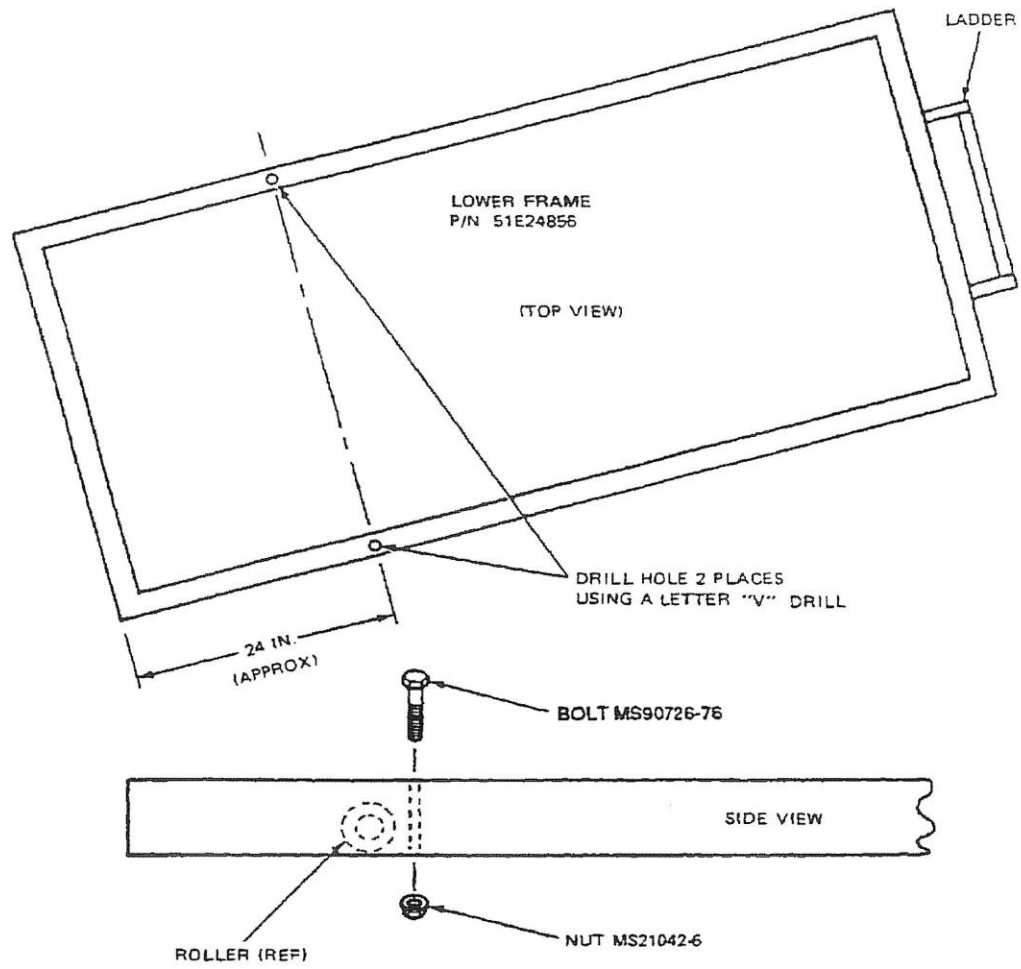

Figure 3-9. Installation of Platform Height Stop Bolt
- c. Operate the pump handle until a height of 7 feet ±2 inches is obtained. This measurement is from the ground to the top of the platform floor. If the platform can be operated past this height, repair in accordance with Figure 3-9 to limit operation of the platform to 7 feet (approximately).